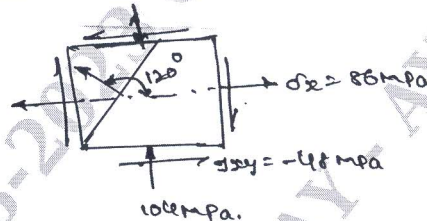

Fig Q4(a)
- 4 a. An element with stress acting on it is as shown in Fig Q4(a), using the Mohr's circle method determine :